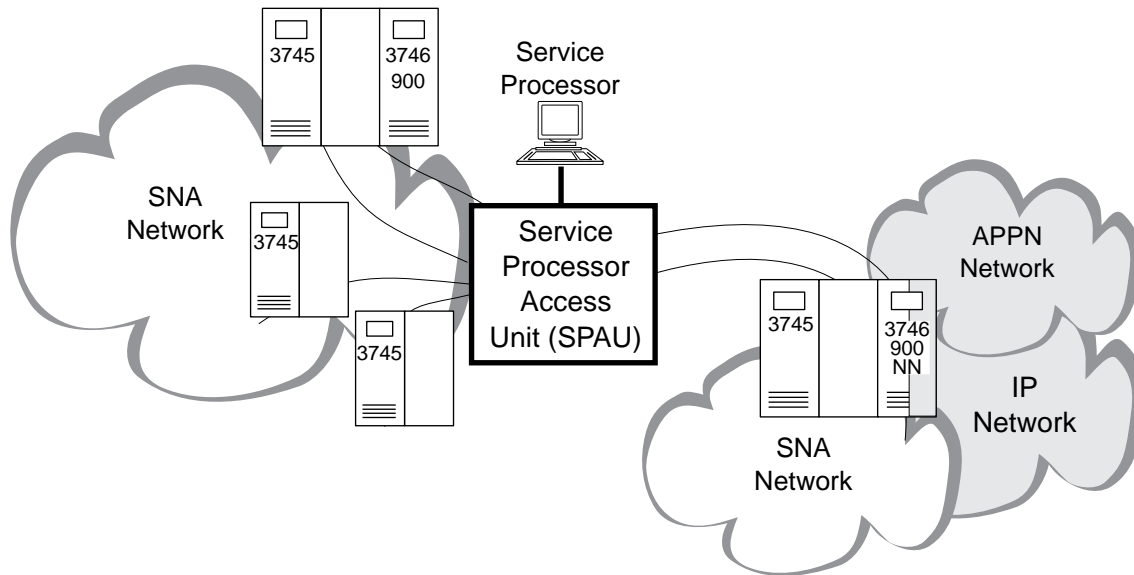

Figure 1-4. Example 2 of a Maximum Configuration. Service processor running four 3745s and two 3746-900s, one operating as an APPN/HPR network node.
- Four 3745s and two 3746-900s, one operating as an IP Router and APPN/HPR network node (see Figure 1-4).